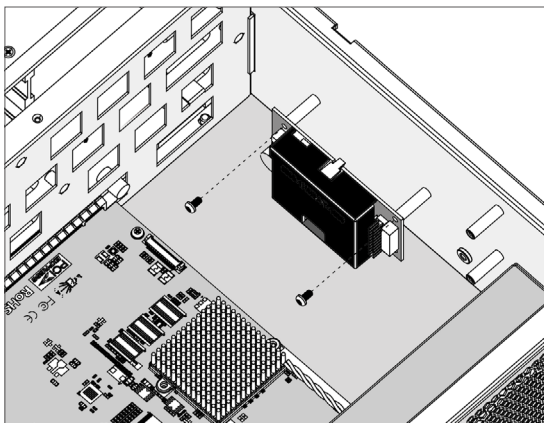

Figure C-6, Secure the Battery Module
2. After removing the cover, then secure the battery pack module (ARC-6120-BAT121-7, reference NO.1 in Figure C-1) on the right side within the enclosure (for ARC-8050T3-16R/24R), as shown in Figure C-6.